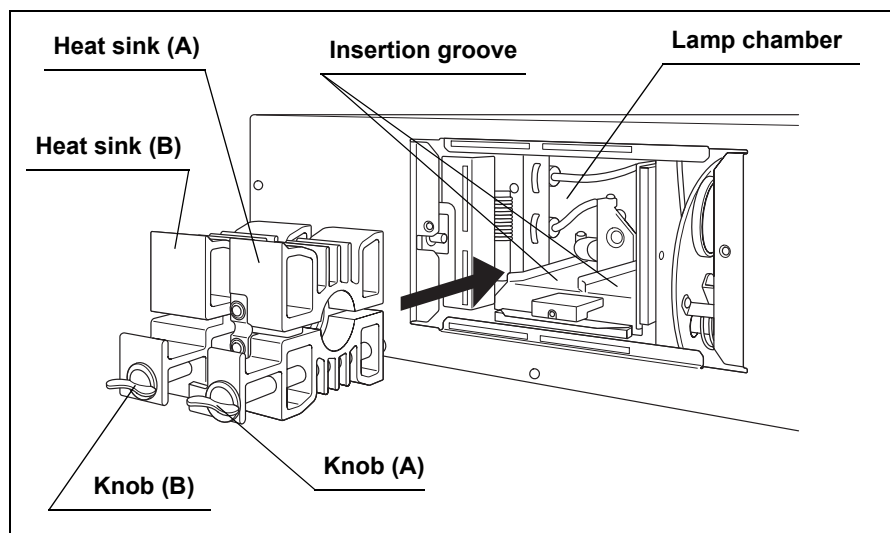

Figure 5.7
6. Place heat sink (A) and heat sink (B) so that their undersides are flat, close the heat sink clamp firmly.
7. Insert the combination of heat sink (A) and (B) into the lamp chamber along the insertion grooves (see Figure 5.7).